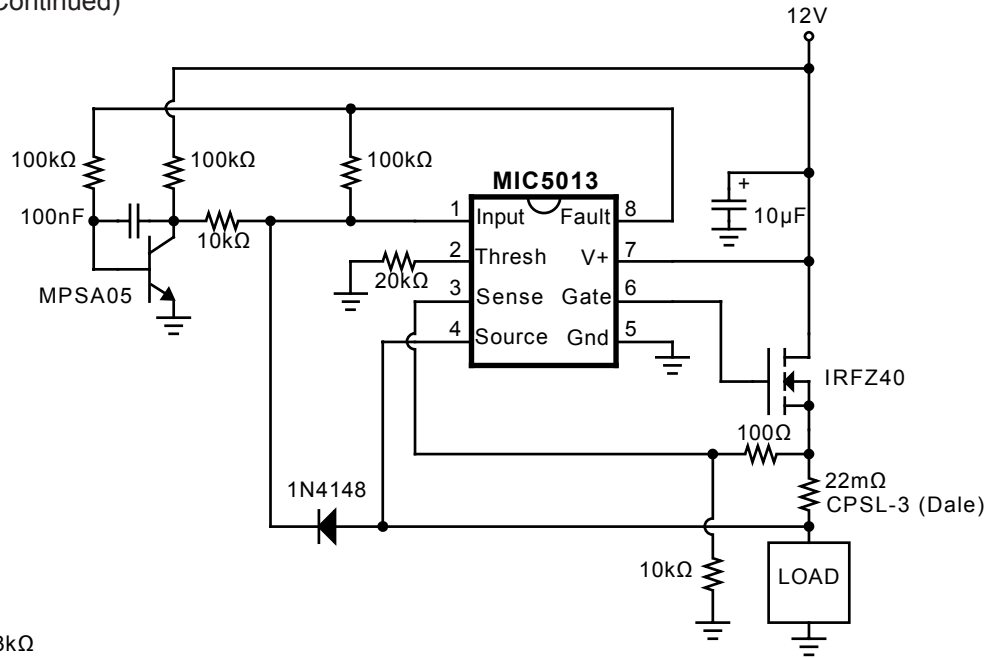

Figure 7. 10-Ampere Electronic Circuit Breaker
**Electronic Circuit Breaker** (Figure 7). The MIC5013 forms the basis of a high-performance, fast-acting circuit breaker. By adding feedback from FAULT to INPUT the breaker can be made to automatically reset. If an over-current condition occurs, the circuit breaker shuts off. The breaker tests the load every 18ms until the short is removed, at which time the circuit latches ON. No reset button is necessary.